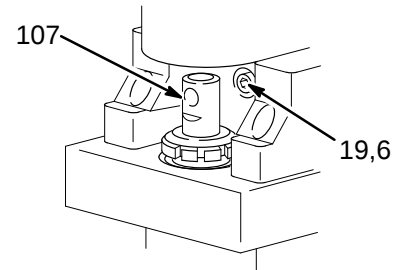
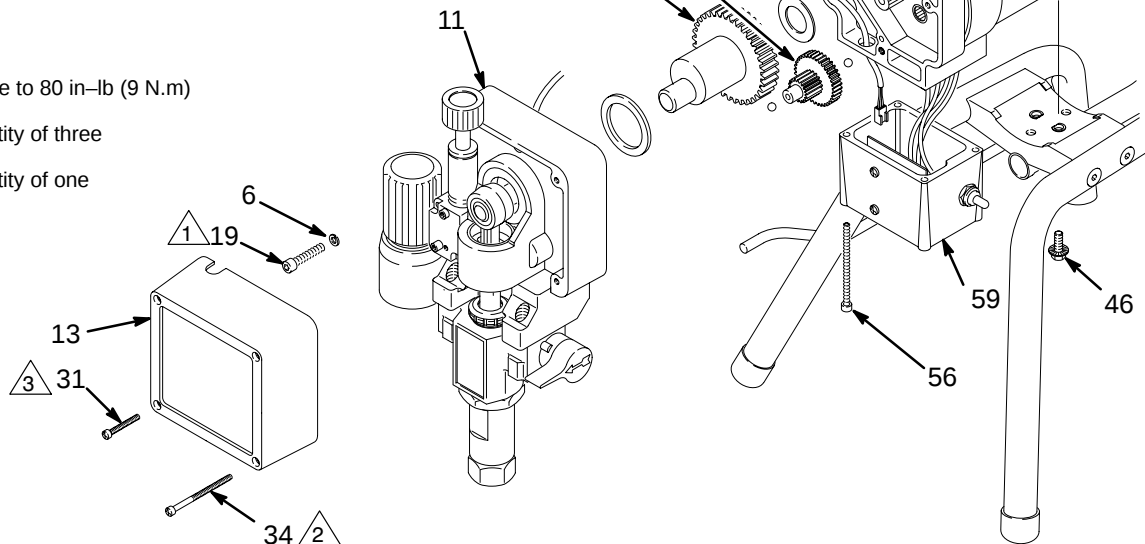
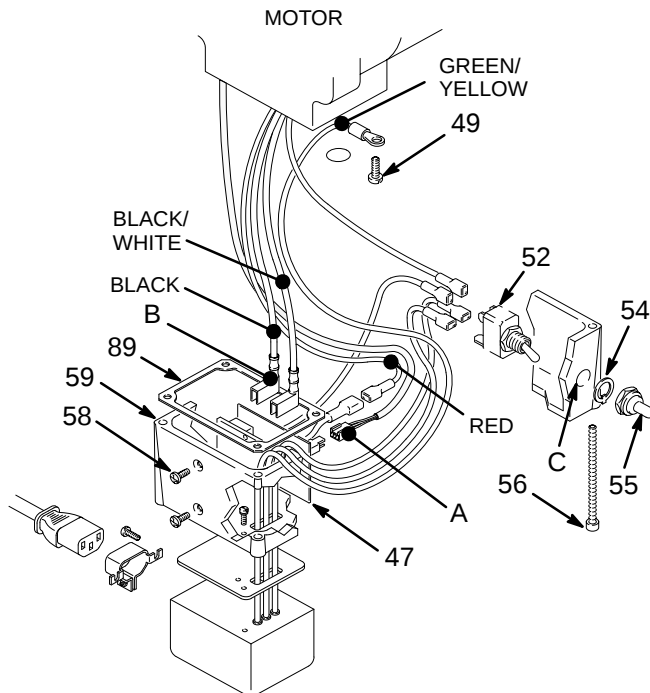

Fig. 24
Fig. 25
Fig. 26
NOTE: See Fig. 25 except where noted.
3. Remove the screws (56) and lower the junction box (59). Disconnect the motor wires and the pressure control wire (A) from the motor start board. Refer to Fig. 26 on page 26.
4. Remove the front cover (13).
5. Turn the displacement pump rod (107) so the pin hole aligns with the bottom drive housing screw (19). See Fig. 24. Remove the three drive housing screws and lockwashers (19,6). Also see Fig. 25.
6. Remove the two motor screws (5) and the lock washers (6).
7. Tap the lower rear of the drive housing (11) with a plastic mallet to loosen the motor. Pull the drive housing straight off the motor while guiding the harness (A) from the motor. Do not allow the gear (16) to fall. Read the CAUTION on page 27.
8. Remove the two screws (46) and lift the motor off the base (66).
9. Align the new motor with the base and reinstall the screws (46).
11. Connect the wires in the junction box. Refer to Fig. 26 on page 26. Install the junction box.
12. Connect the piston rod (107) to the drive housing; see page 21, **Installing the Pump**, Step 2 and the **WARNING** following it.
NOTE: See Fig. 26 for this procedure.